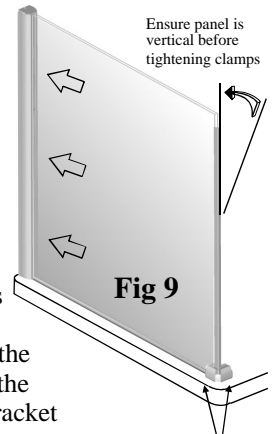

Fig 9
4.2 Insert large side panel into wall profile glass clamps (see Fig.9) with the soft seal onto the tray and the fitted corner bracket to the front. Move the panel in or out until the corner bracket is spaced equal distance from the front edge of the tray as it is from the side face of the tray. Ensure the panel is vertical then fully tighten the 3 glass clamps screws using 2.5mm allen key supplied (see Fig 32). If after adjusting for vertical, the corner bracket is not seated firmly on the tray, loosen grub screws and tap the bracket down onto the tray (caution - do not exceed 5mm adjustment on this bracket) Pack between bracket and tray if you require more adjustment.